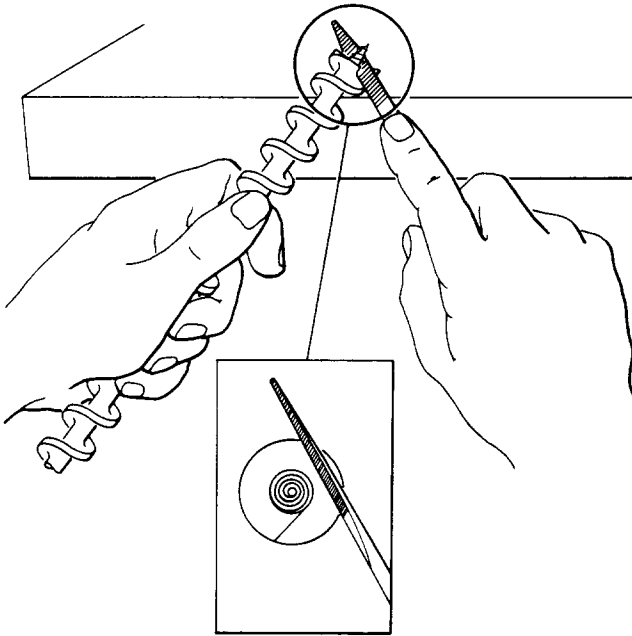

Fig. 7 — Sharpening the Spur
5.05 To resharpen a spur, rest the bit on a wood support with the screw pointing up. See Fig. 7. Place an auger bit file on the inside of the spur and sharpen the cutting edge by pressing lightly while keeping the file at an angle that will limit the amount of metal removed. Except for touching up, never file a spur on the outside because this will destroy the clearance and cause the bit to bind or stick.